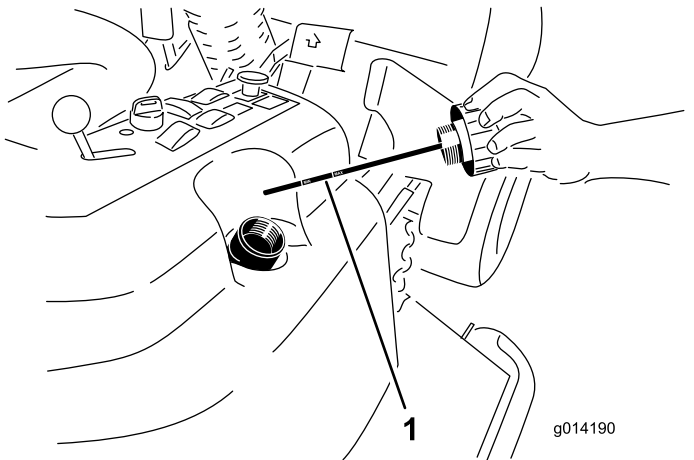

Figure 51
4. Remove the hydraulic-filler cap (Figure 51) from the filler neck.
5. Remove the dipstick and wipe it with a clean rag (Figure 51).
6. Screw the dipstick all the way into the filler neck; then remove it, and check the level of the fluid (Figure 51).